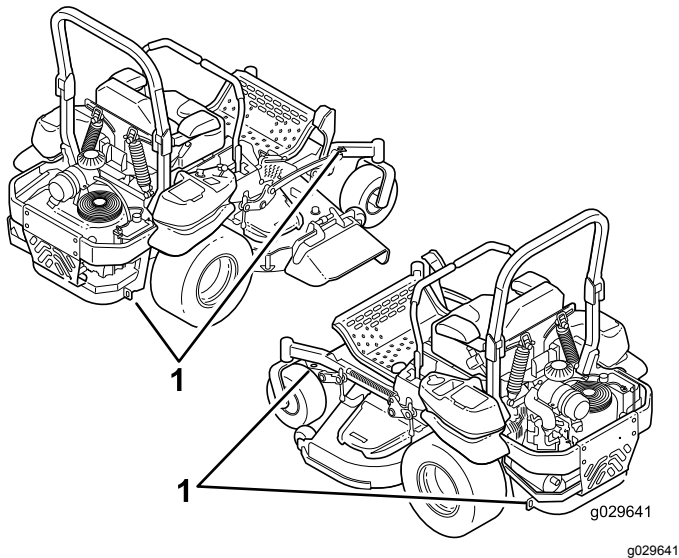

Figure 42
5. Use the metal tie-down loops on the machine to securely fasten the machine to the trailer or truck with straps, chains, cable, or ropes (Figure 42).